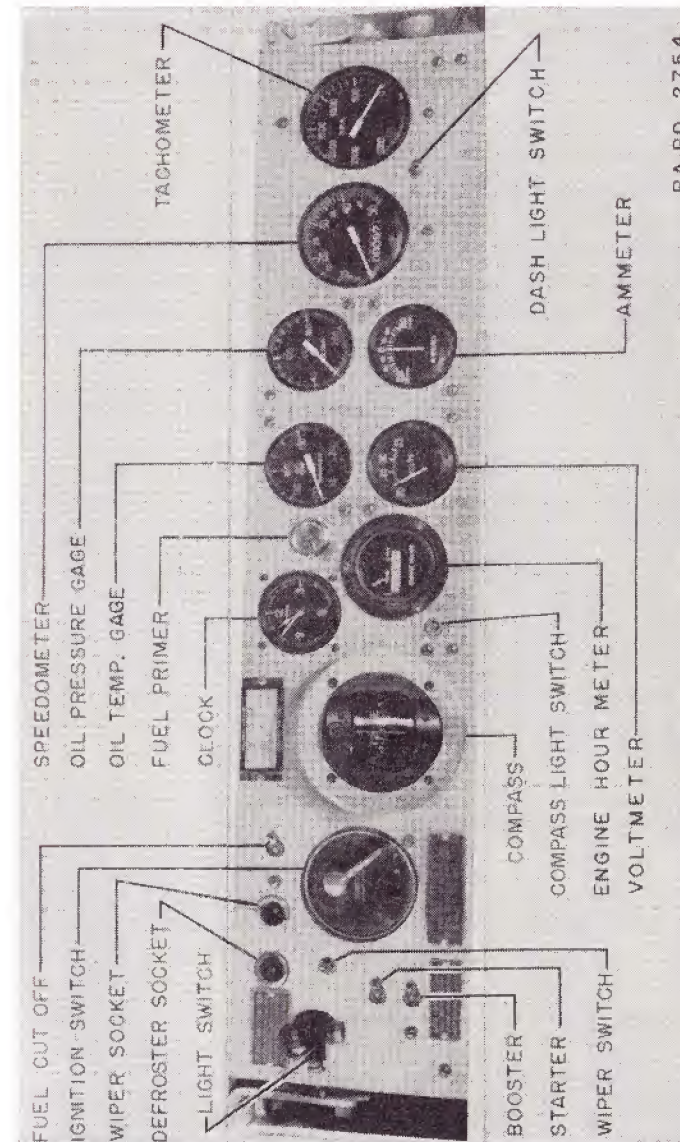

Figure 8.—Instrument panel.
a. Give the engine several strokes of the priming pump located on the instrument panel (fig. 8). Excessive priming should be avoided, since it has a tendency to wash lubricant off the cylinder walls and thus cause excessive wear and damage. Do not prime through exhaust ports or spark plug holes with raw gasoline. Do not prime a hot motor.
c. Operate the starter. Turn the ignition switch to the "both" position and press the booster coil switch located on the instrument panel (fig. 8).
- (1) Check all instruments to see that they are functioning and showing the proper readings.
- (2) Check for loose parts.